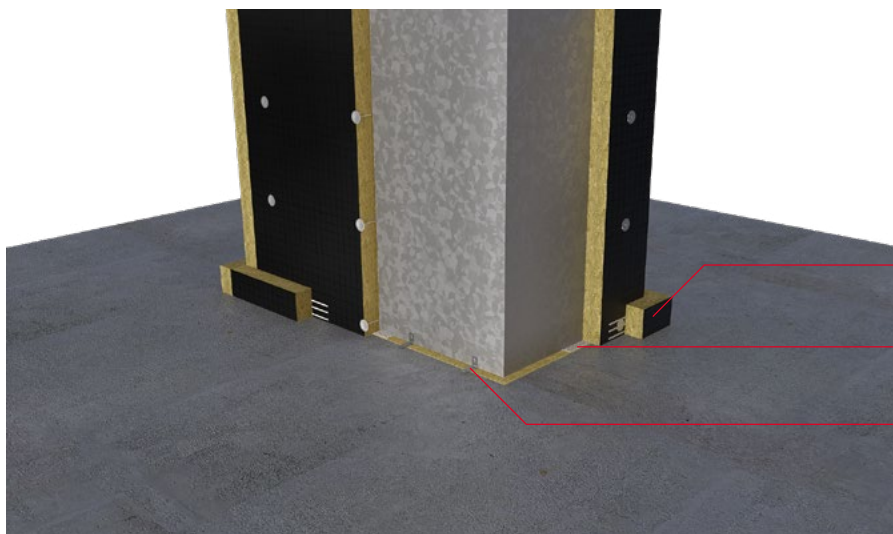

Figure 11a
1. Maintain a 30mm gap between the ductwork and floor structure. Fill the gap between the duct and the floor structure with a ROCKWOOL Slab e.g. ROCKWOOL RWA45 as shown in Figure 11a. The flexible slab can be sealed within the void using FirePro Glue.
3. Apply a DuctRock Collar to the perimeter of the aperture and on both sides as shown in Figure 11a. The collars can be fixed using FirePro Glue and temporarily held in place with nails until the glue cures.